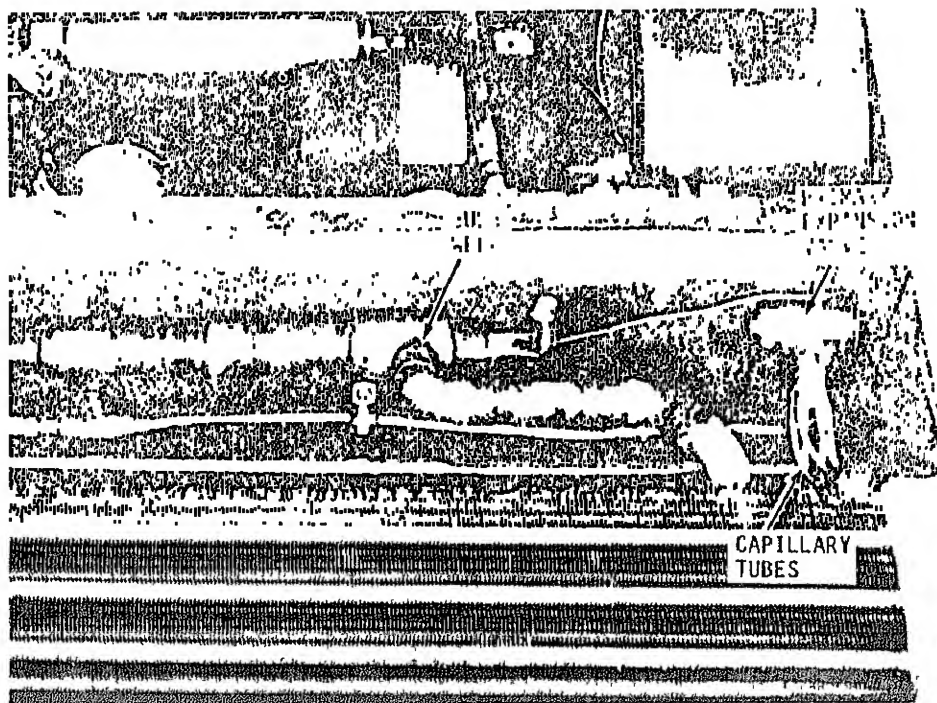

Figure 4-22. Expansion valve, primary
(2) Refer to figure 4-22 and para 5-29c(4) and check that the required length of the expansion valve's sensing bulb is fully in the suction line bulb well.
(3) Refer to figure 4-22 and examine the flow restrictor capillary tubes carefully. They should be very cold and evenly frosted. Unfrosted tubes are blocked and should be re-placed.
(4) If none of the capillary tubes is cold and frosted, the valve is
c. Test. Test the power assembly by pulling the valve's sensing bulb from the suction bulb well (figure 4-22). Hold the sensing bulb firmly in both hands for two or three minutes. The warning from holding the bulb should put enough pressure on the bellows to start the refrigerant flowing into the system. If cooling does not commence, the expansion valve is defective and should be replaced. Report all defects to direct support maintenance.